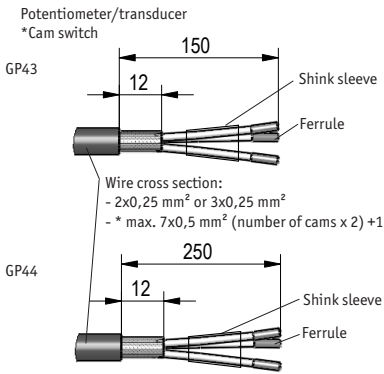

Fig. 2: Cable preparation
- Prepare wire accord. to fig. 2